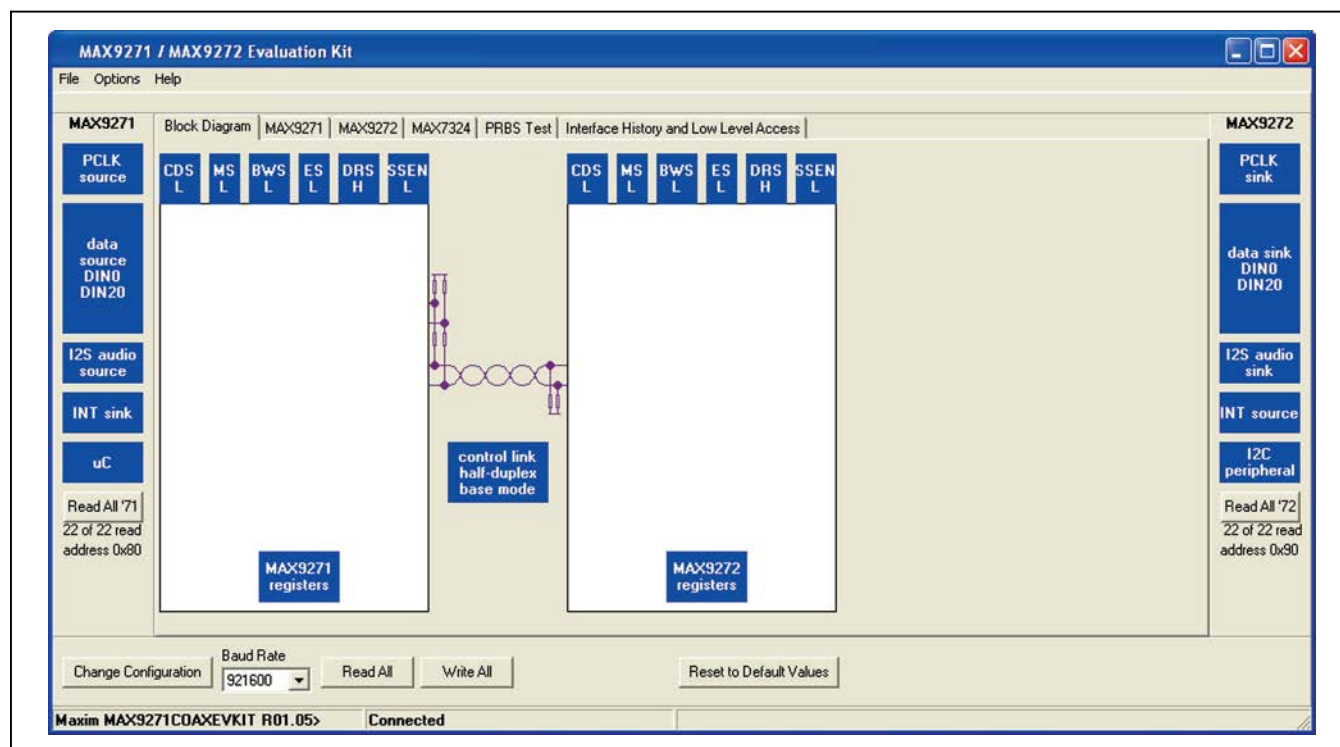

Figure 1. MAX9271/MAX9272 EV Kit Software Main Window (Block Diagram Tab)
- 14) The EV kit software main window appears, as shown in Figure 1.
The main window of the evaluation software (Figure 1) shows a block diagram representing the MAX9271/MAX9272 system. The left column shows MAX9271 input data sources and the right column shows MAX9272 output data sinks.